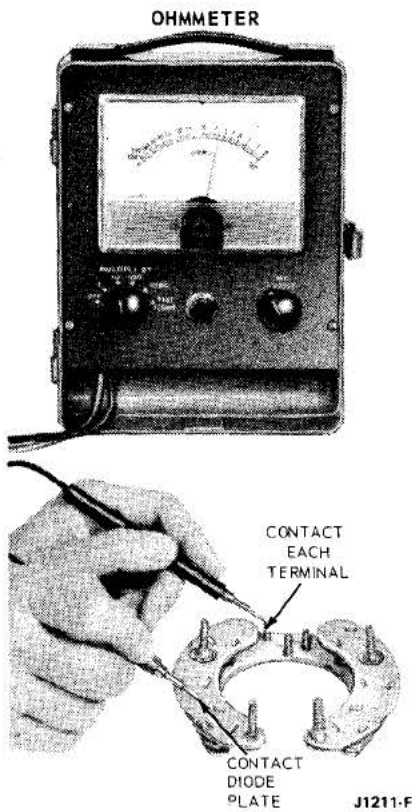

FIG. 7 Diode Test—Rear Terminal Alternator
1. To test one set of diodes, contact one probe to the diode plate as shown in Fig. 7 and contact each of the three stator lead terminals with the other probe. Reverse the probes and repeat the test. All diodes should show a low reading of about 60 ohms in one direction, and an infinite reading (no needle movement) with the probes reversed.